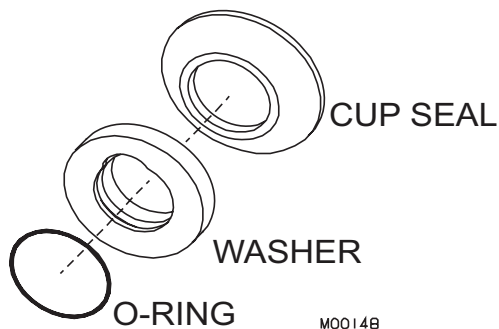

Figure 7-3 Shaft Seal
7. Remove the handle pin (9), handle (11&12), plunger (6&7) and nozzle (13) from the dispense head.
8. Remove O-rings (2) from the dispense head and O-rings (5) from the plungers (6&7).
9. Remove the cup seal (figure 7-3) and O-ring from the plastic washer on the shaft seal assembly.